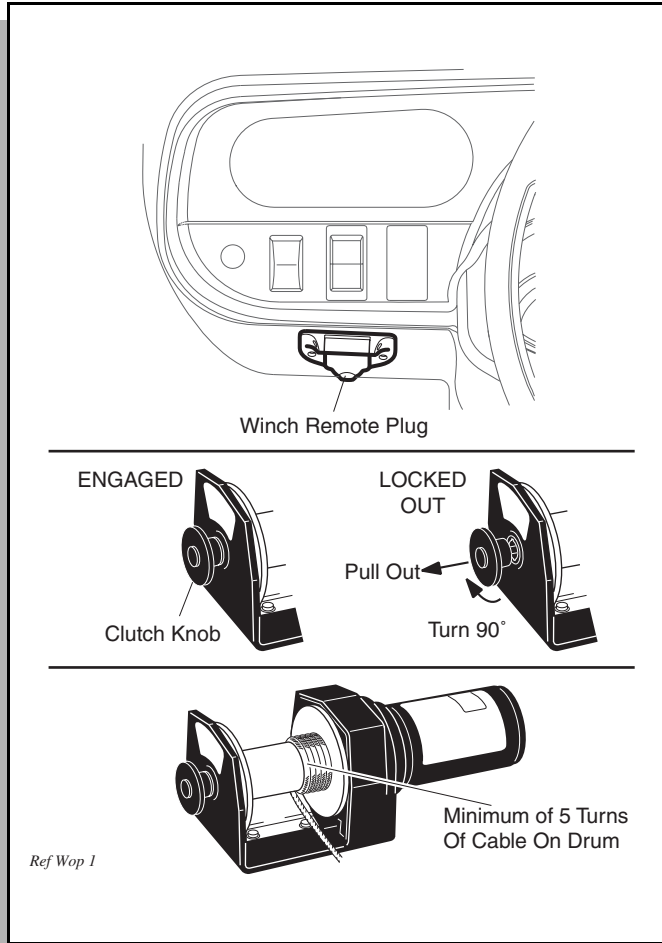

Fig. 19 Winch Operation
Never operate winch with less than five (5) full turns of cable around drum (Ref. Fig. 19 on page 12).
Plug winch remote control into receptacle located on dash panel (Ref. Fig. 19 on page 12).
To unwind cable, locate clutch knob on winch (Ref. Fig. 19 on page 12). Pull out knob and rotate 90° to lock out. Using handsaver bar, pull cable from winch drum. Leave at least five turns of cable on drum. Engage drum by turning clutch knob 90°, returning it to original position.